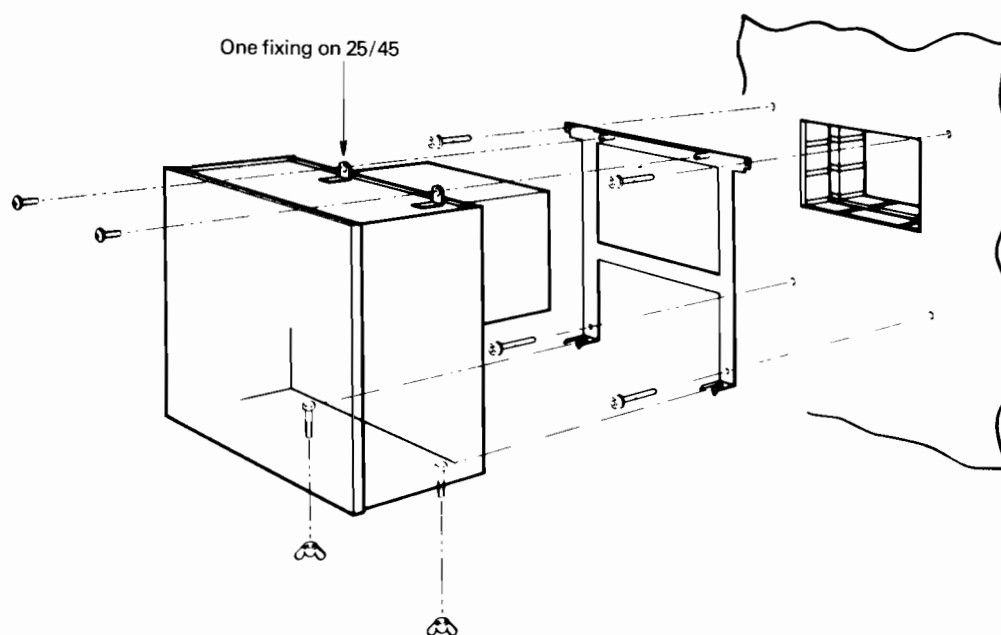
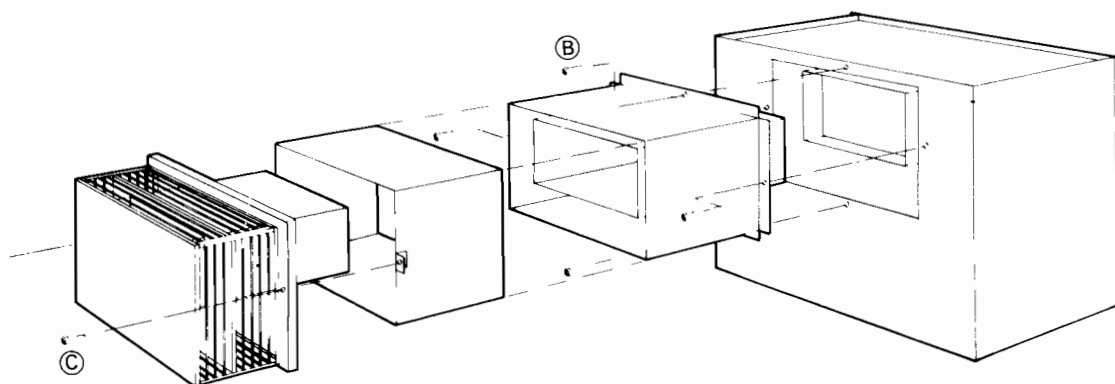

Fig. 4
Fig. 5
Unpack the boiler, swing down the controls access door and unscrew the case fixing screw (located below the piezo spark unit). Lift the casing to clear the top locating brackets and pull casing forward to remove. Remove the wallplate from the boiler as indicated in Fig. 4.
see Fig. 5. Lift the boiler and pass the ductwork through the aperture in the wallplate. Secure the boiler to the wallplate using the screw(s) and wing nuts provided — see Fig. 4.
From the outside of the building, enter the air inlet duct into the wall opening and slide over the air inlet duct already in position. Mark position of fixing holes. Drill and plug holes to suit No.10 x 1" screws. Adjust the telescopic ducts to suit the finished wall thickness. Seal the air inlet duct on the inside using the tape provided. Make good the external wall surface. Locate the flue terminal onto the flue outlet duct and slide the flue terminal into position. Secure the flue terminal to the wall using 2 off No.10 x 1" screws (C) provided — see Fig. 5.